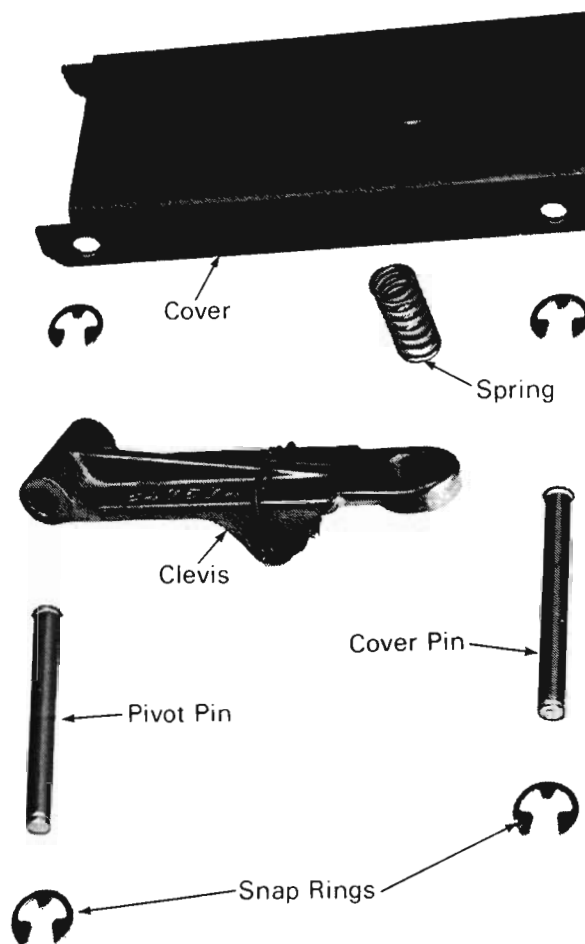

Fig.5 - Throttle Detent Assembly
8. Remove snap rings from throttle detent assembly cover pin, Fig. 5, securing detent cover to housing.